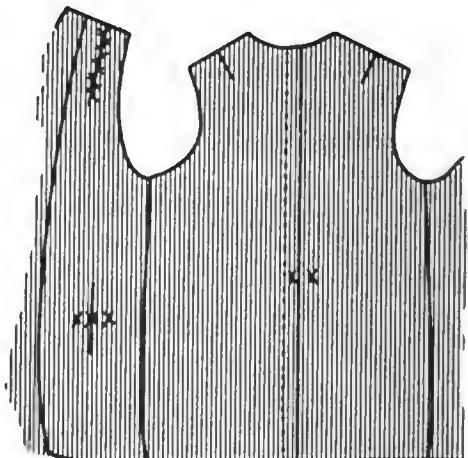

Fig. 247. Constructing the body lining.
- C. Permanently stitch the side seams, all lengthwise seams, and the center back seam of the lining, if there is one. Do not stitch the shoulder seams or the sleeves into the armholes (Fig. 247).
- E. Baste in a fold or pleat at the center back (Fig. 247).
- F. Darts may be fastened in before the lining is attached or after it is fitted into the coat (Fig. 247). (The author prefers to baste darts now and catch-stitch later.)